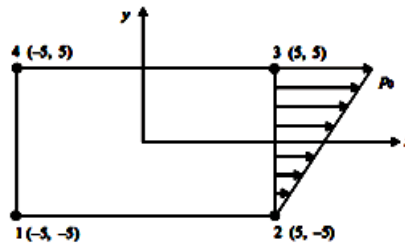

Figure 3
6. For the four noded quadrilateral element shown in figure 3, find the nodal load vector if p_0 is 2MPa. Also find the determinant of the Jacobian for one point gauss quadrature. [10]